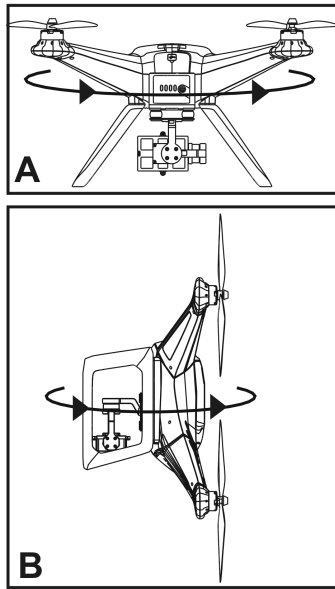

Figure 8
- Hold the quadcopter horizontally (see figure 8, illustration A) and turn it around its vertical axis until the status LEDs switch to green (at least 360°).
- Then hold the quadcopter with the front propellers vertically down and turn it around the longitudinal axis by 360° (see figure 8, illustration B), until the status LEDs go out.